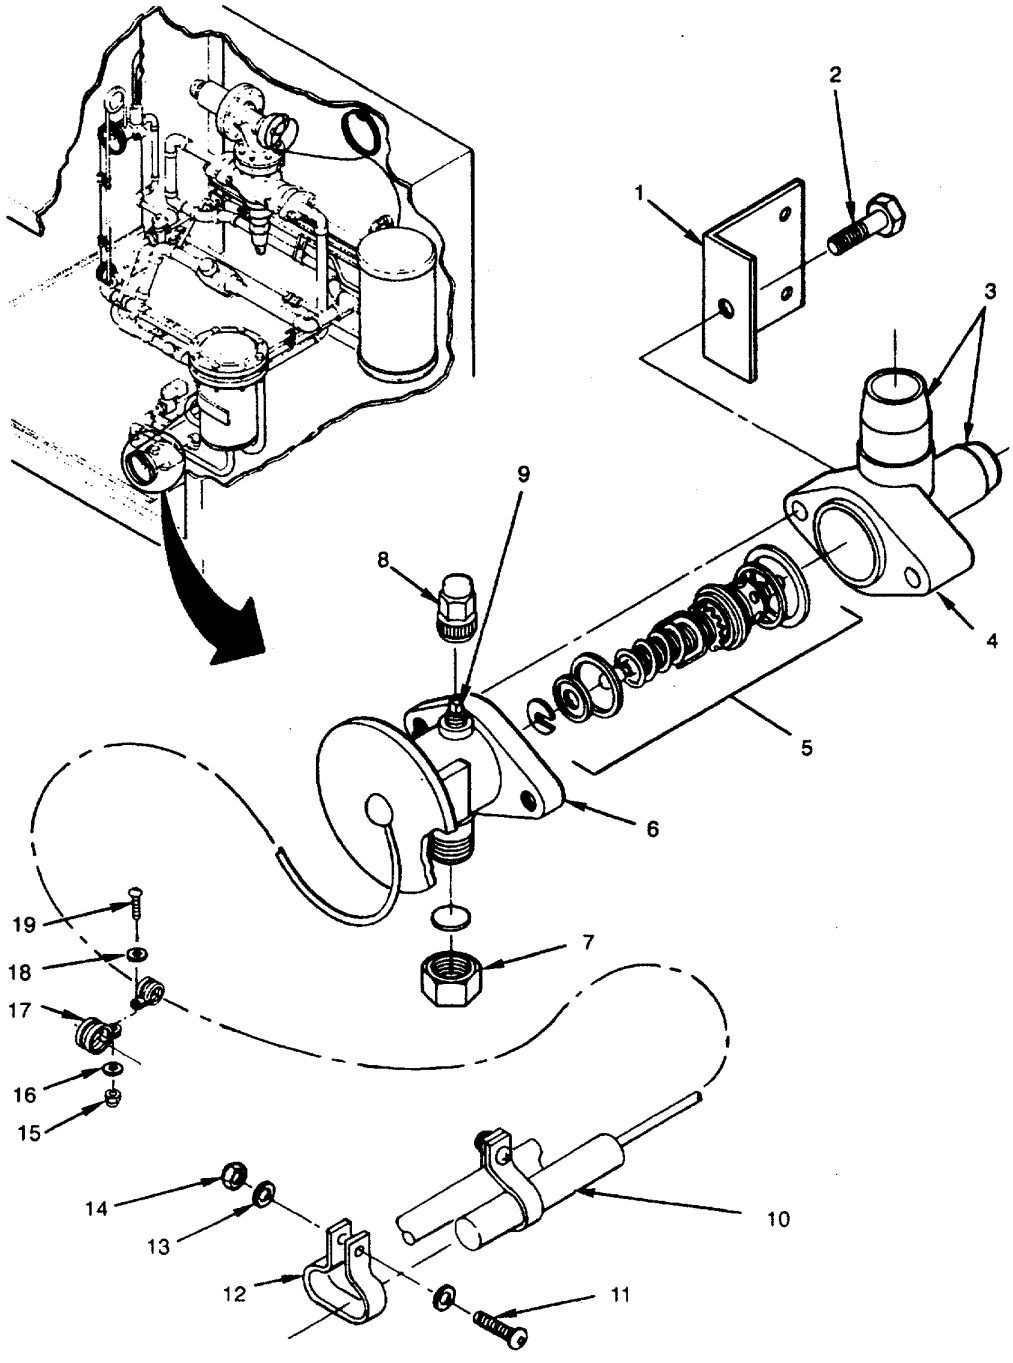

Figure 5-25. Thermostatic Expansion Valve (Liquid Quench)
1. Inspect for evidence of leaks, kinked or damaged capillary line, and loose or missing mounting hardware (see Figure 5-25).